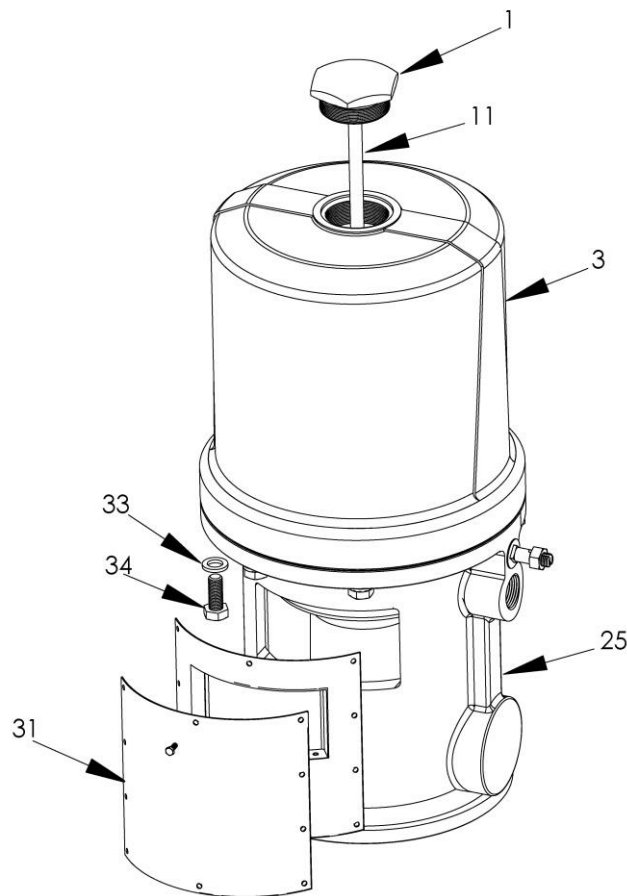

Fig. 5
3. Manually push up on the piston rod to move the piston assembly to the top of its stroke. Unscrew the cylinder cap nut from the cylinder. Pull up on the cap nut. Grip the trip rod with padded and screw the cap nut off the trip rod. See Fig. 5.